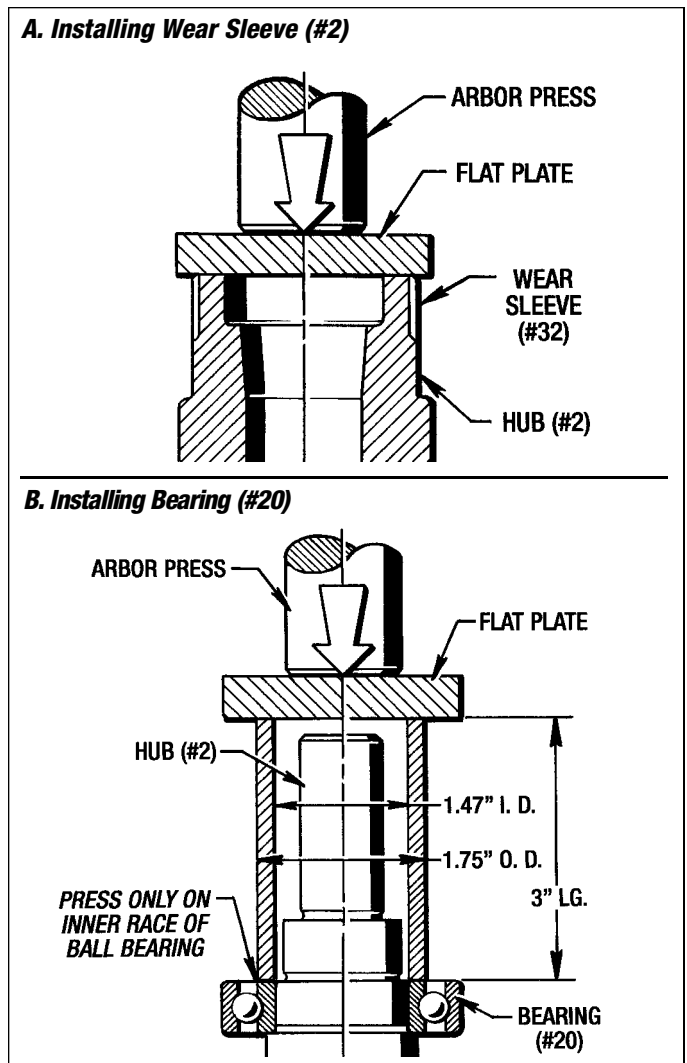

Figure 9.4 - Hub Reassembly
(See Figure 9.4)
1. First make sure the Hub (#2) diameter is thoroughly cleaned. Apply **Red Loctite #272** to the Hub (#2) and as shown in Figure 9.4 install the Wear Sleeve (#32) on the Hub (#2) with an arbor press until it bottoms out on the hub shoulder. Clean off any excess adhesive.
1. Heat up the Bearing (#20) to 200° F. and drop it on to the Hub (#2) or press it on with an arbor press as shown in Figure 9.4.